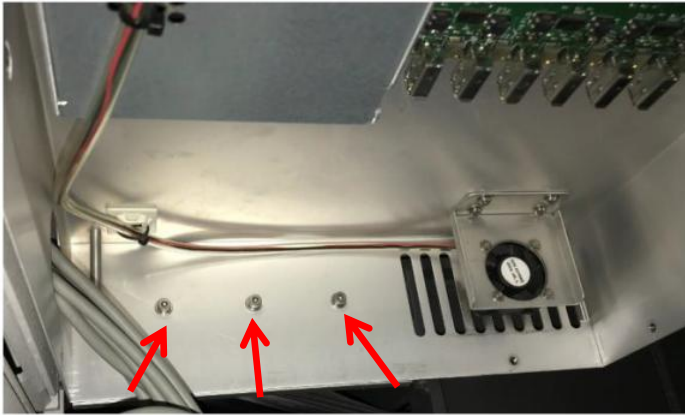

Figure 25 Trigger Board Tray assembly
9. Assemble entire Trigger Board Tray to origin location. Tighten 5 x screws at Trigger Board Tray as below Figure 25